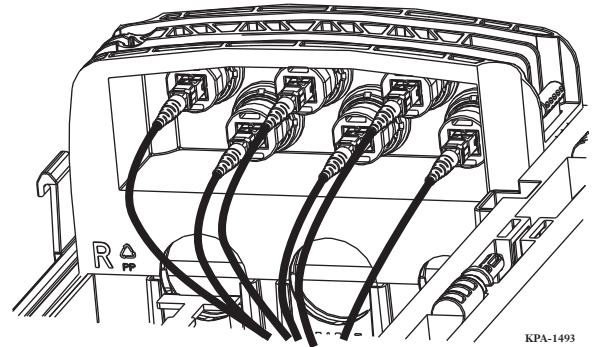

Figure 19 — Install Connectors
- Step 2:** Insert each cleaned connector into the OptiFit adapter on the inside of the terminal (Figure 19).